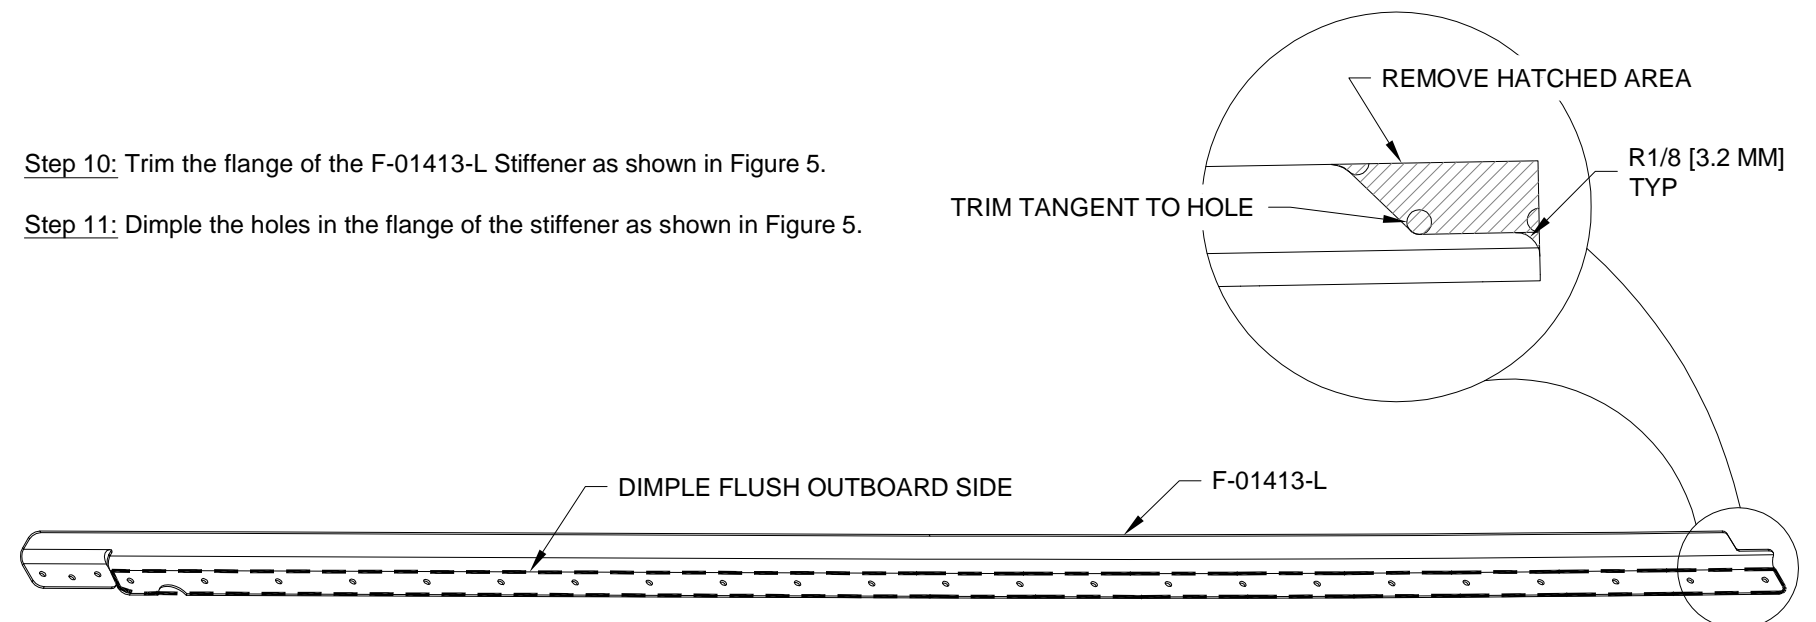

FIGURE 5: STIFFENER
Step 10: Trim the flange of the F-01413-L Stiffener as shown in Figure 5.
Step 11: Dimple the holes in the flange of the stiffener as shown in Figure 5.